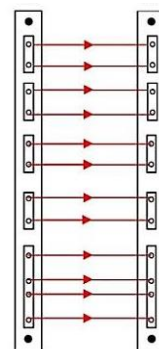

Figure 2
4. **Power the barriers and briefly press the reset button on the RX base board**, taking care not to interrupt the transmission beams; the buzzer will signal the activation of the single double beams (figure 2).